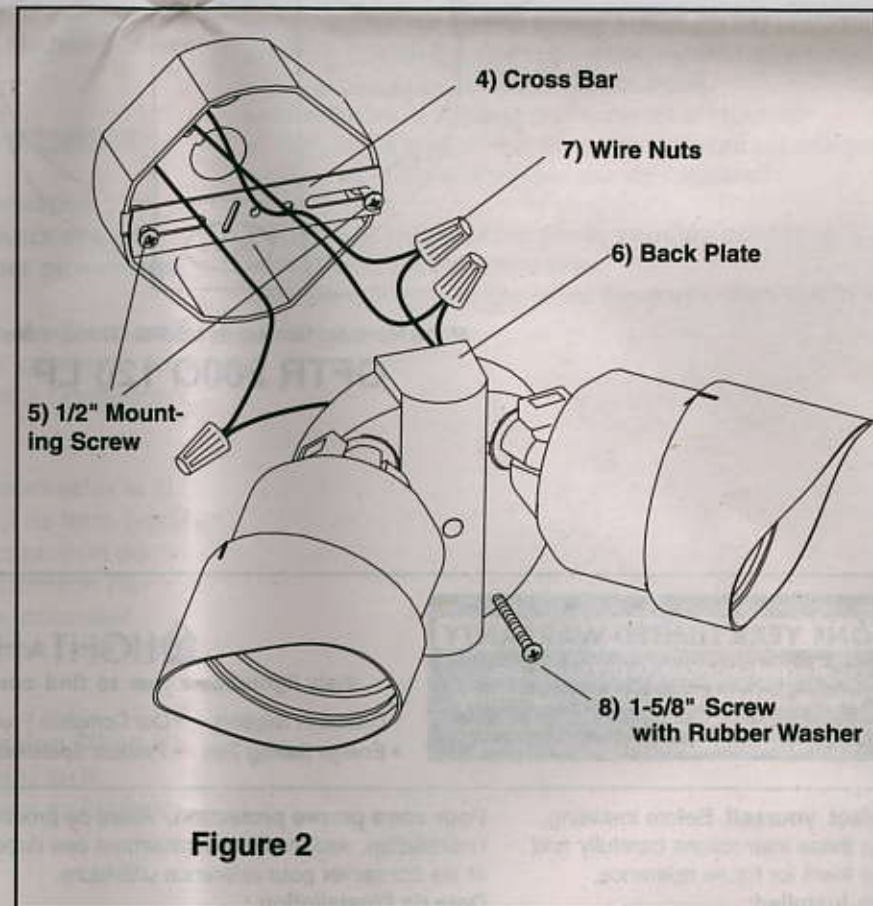

Figure 2
5. **Install Cross Bar (4) to junction box** using two 1/2" screws (5). *Note: four screws are included, choose size depending on your requirements. See Fig. 2.*
7. **Use Wire Nuts (7)** to connect the two black fixture wires to the black house power supply wire and the two white fixture wires to the white (*neutral*) house supply wire.